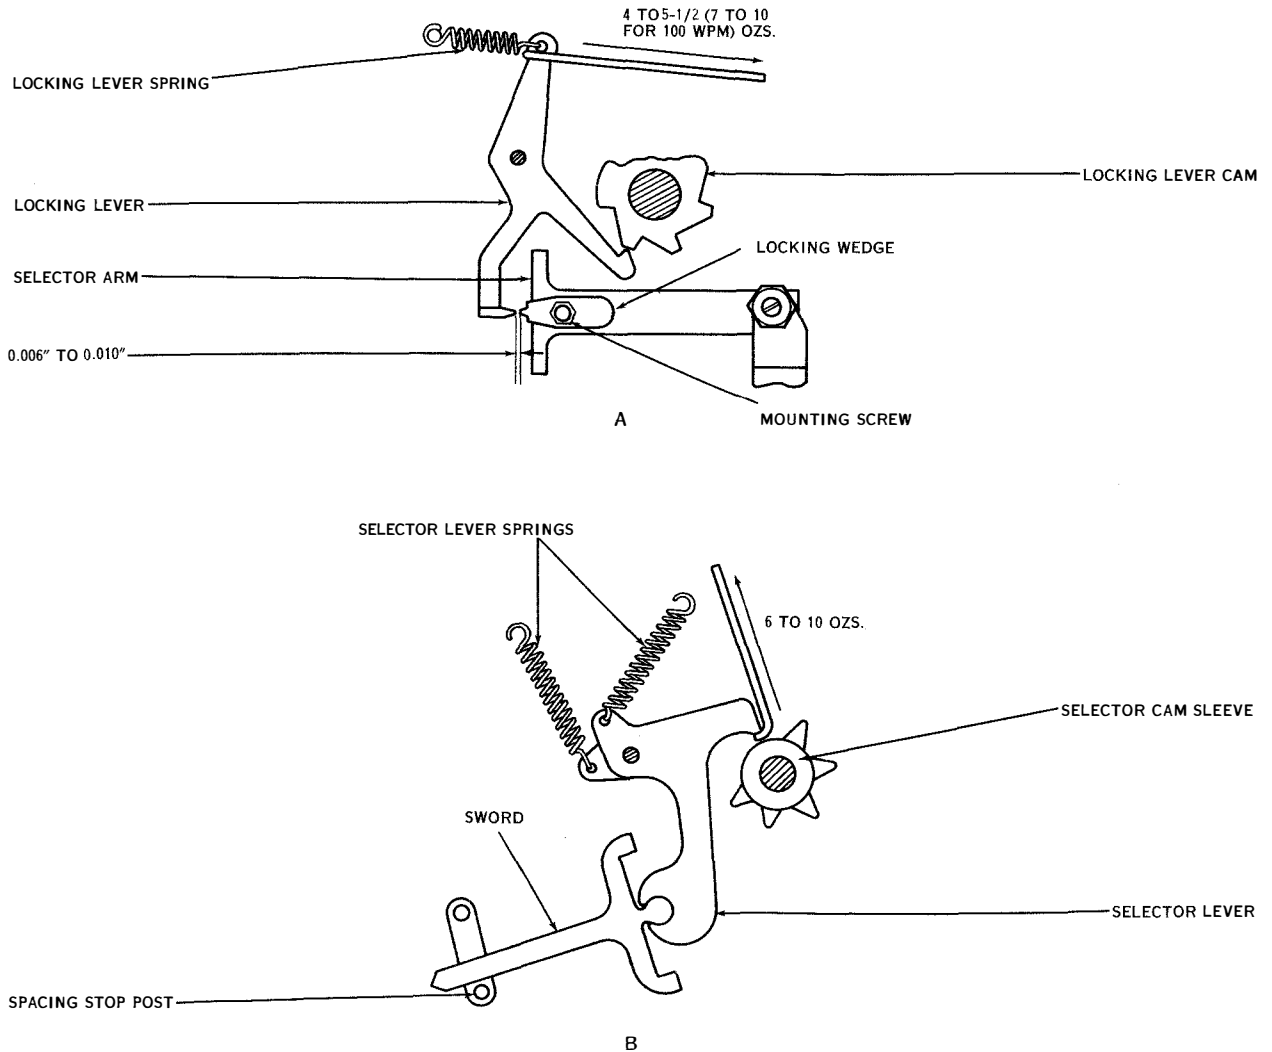

Figure 7-29. Selector Lever Spring Tension and Locking Wedge
(11) LOCKING WEDGE. (See figure 7-29.)—The locking wedge should clear the locking lever by 0.006 to 0.010 inch. To check, rotate the main shaft until the locking lever is on the high part of its cam and hold the end of the wedge in line with the locking lever. To adjust, loosen the mounting screw and position the locking wedge in its guide. Hold the wedge in position and tighten its mounting screw.
(12) LOCKING LEVER SPRING TENSION. (See figure 7-29.)—A tension of from 4 to 5½ ounces (7 to 10 ounces for 100-wpm spring) should be required to
(15) SELECTOR LEVER SPRING TENSION. (See figure 7-29).—A tension of 6 to 10 ounces should be required to move the selector levers off their cams. To check, place the code bars in the MARKING position and the main bail in its highest position. Move the swords manually to the SPACING position. Hook a 32-ounce scale over the selector lever at the selector cam sleeve and pull radially to the main shaft. Note the tension as the lever moves off its cam. Check each lever.